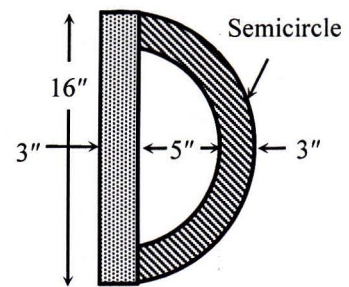

Fig. 8
- Calculate the Yield Moment (M_y) and Plastic Moment (M_p) capacity of the section shown in **Fig. 8** if it is made of elastic-fully plastic material [Given: $\sigma_y = \sigma_{yp} = 60$ ksi].